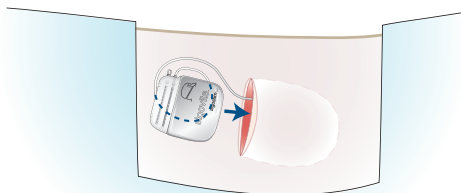

Figure 11. Place the IPG in the pocket.
1. Making sure of the following, place the IPG into the subcutaneous pocket (*Figure 11*):